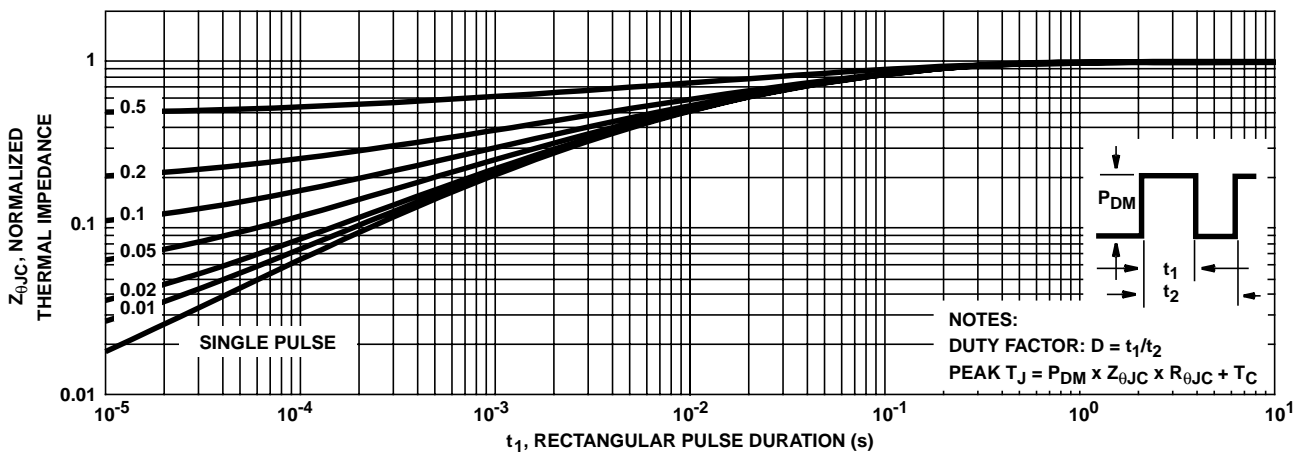

FIGURE 3. NORMALIZED TRANSIENT THERMAL IMPEDANCE
- Repetitive rating: pulse width limited by maximum junction temperature. See Transient Thermal Impedance curve (Figure 3).